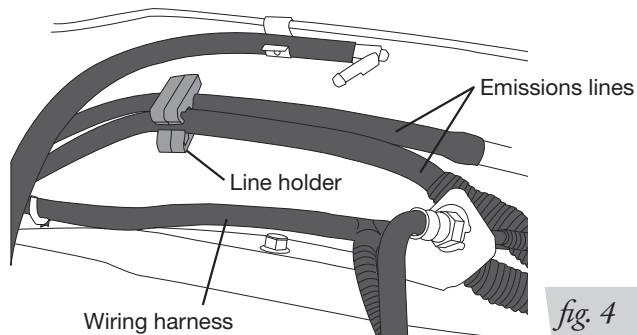

fig. 4
4. Disconnect the wiring harness from the driver's (left) side frame rail (Fig. 4).
2. Carefully push the line holder out of the frame above the axle. Try to minimize damage because it will be reused. Remove any holders forward or rearward of the axle to aid in positioning the lines once the upper brace has been installed (Fig. 4).